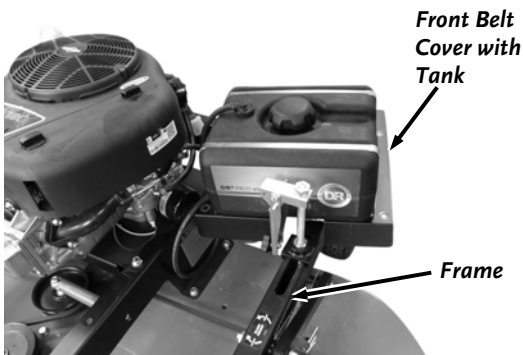

Figure 46
5. **Mow Pro-60 model only:** Position the Front Belt Cover with Tank at the left rear corner of the Frame (Figure 46).